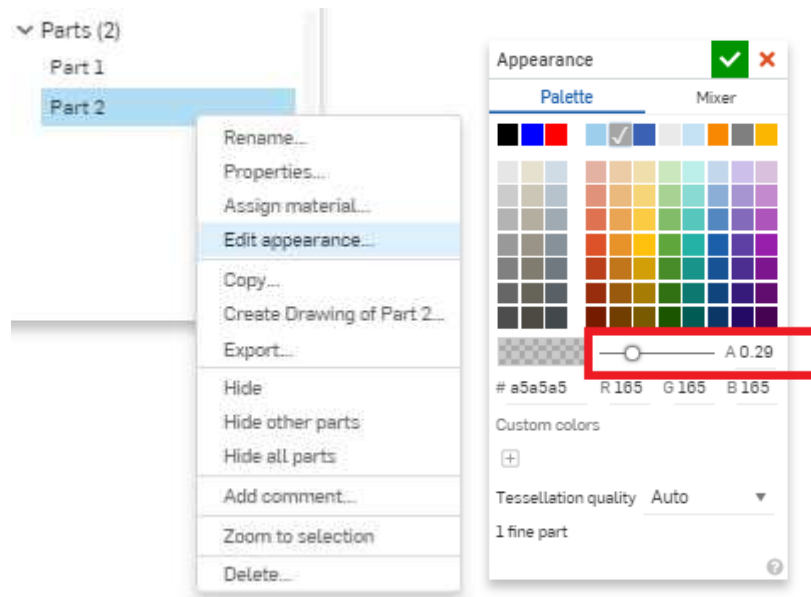

Figure 1.2: Editing appearances of parts.
- 6) The new part (“Part 2”) will be opaque but can be made transparent by right clicking on the “Parts” list below “Features” list and clicking “Edit appearance”. Move the transparency slider to your liking (as shown in figure 1.2) and click ok.